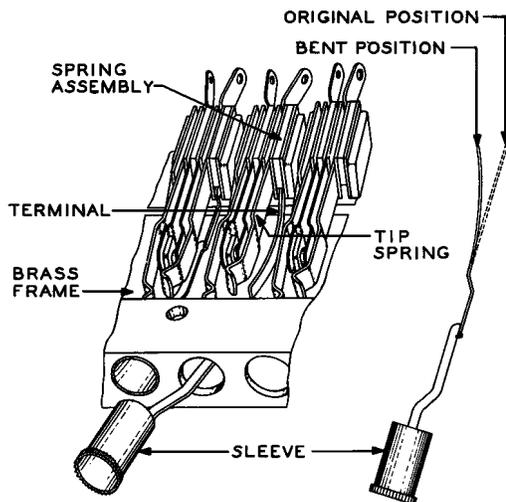

Fig. 7 – Method of Inserting Sleeve Into the 141 Jack
3.12 Before inserting the new sleeve on the 141 and similar jacks, bend the sleeve terminal toward the center line of the sleeve so that the vertical section back of all bends forms an arc, and the extreme end of the terminal is offset about 1/4 inch from its natural position as shown in Fig. 7. On the 49-type jack, it will not be necessary to bend the sleeve terminal.
3.14 On the 141 and similar jacks, hold the sleeve so that the terminal is at the bottom for 1/2-inch thick mountings as shown in Fig. 7 and at the top for 11/16-inch thick mountings. Carefully locate the opening in the spring assembly at the rear of the mounting with the end of the terminal. This opening can best be located by holding the terminal against the side of the tip spring as shown in Fig. 7 and allowing